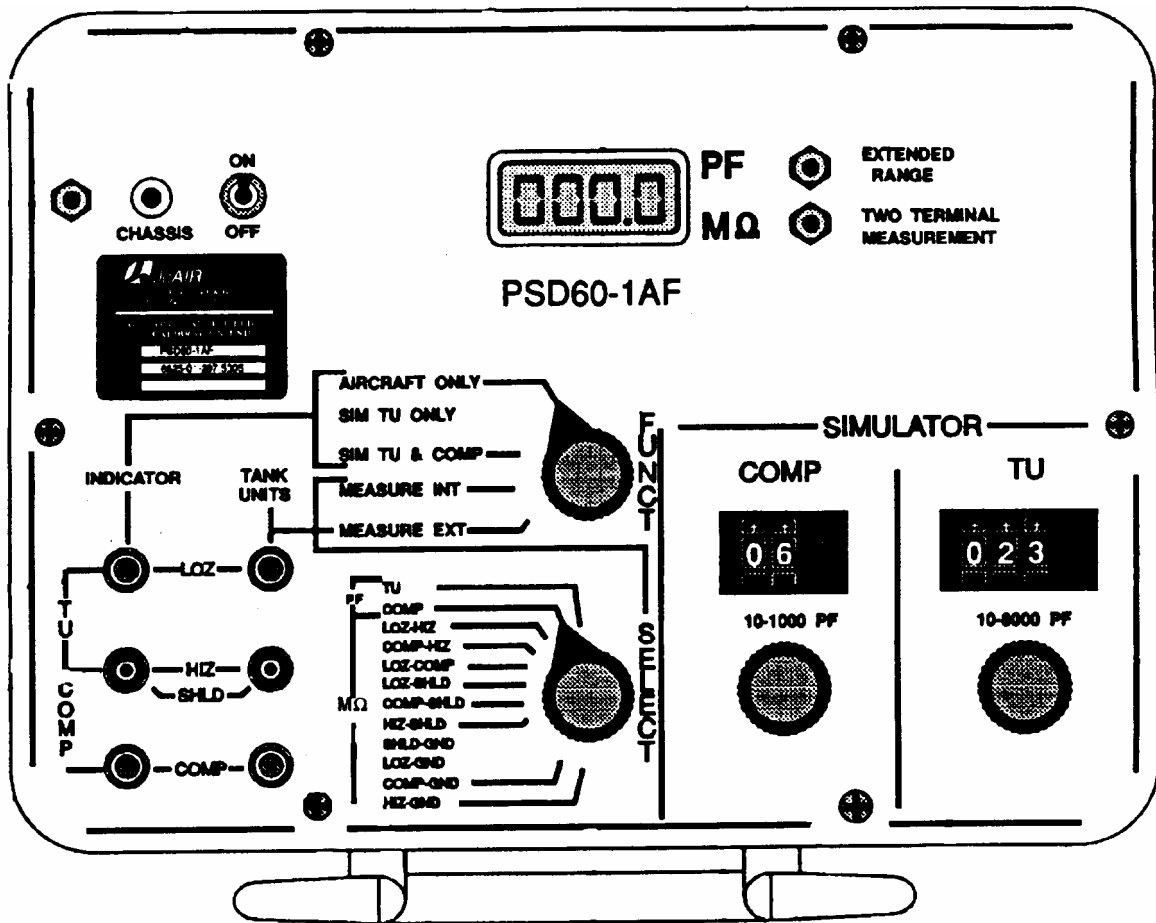

Figure 1. Front panel.
7. Equipment Setup. Set ON-OFF power switch to ON (fig. 1) position and allow five minutes for TI to warm-up and stabilize.